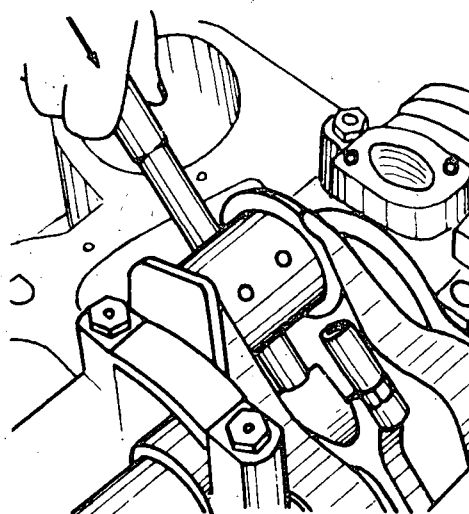

Fig. 4
- c) Push the piston-connecting rod unit (fig. 4) until it comes out of the cylinder.